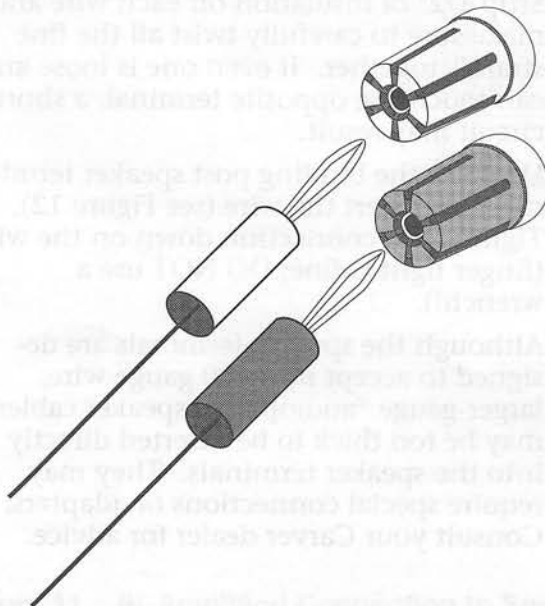

**Figure 12. Bare Wire Connection**
- 2) Unscrew the binding post speaker terminals and insert the wire (see Figure 12). Tighten the connection down on the wire (finger tight is fine; DO NOT use a wrench!).